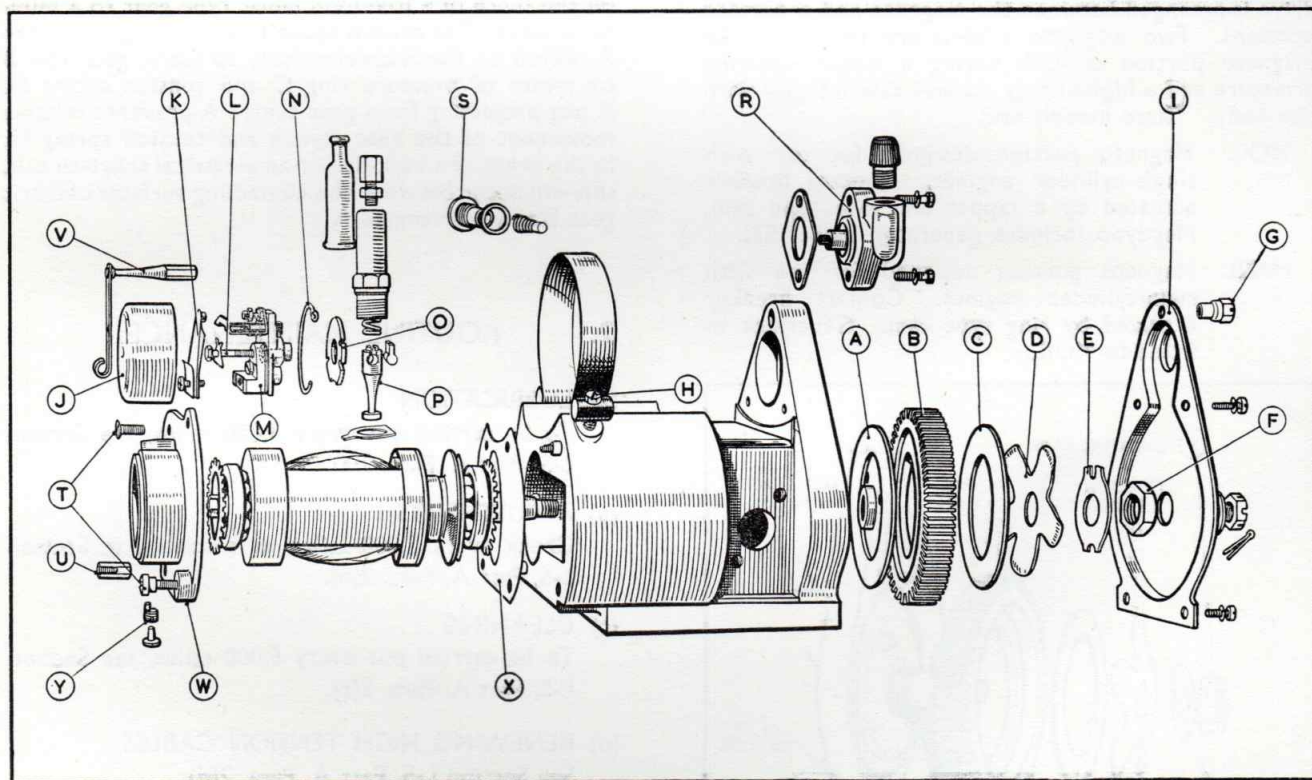

Fig. 2
- (i) The generator and magneto portions, can be separated by withdrawing the generator securing nut G and slackening band clip securing screws H, see Fig. 2.